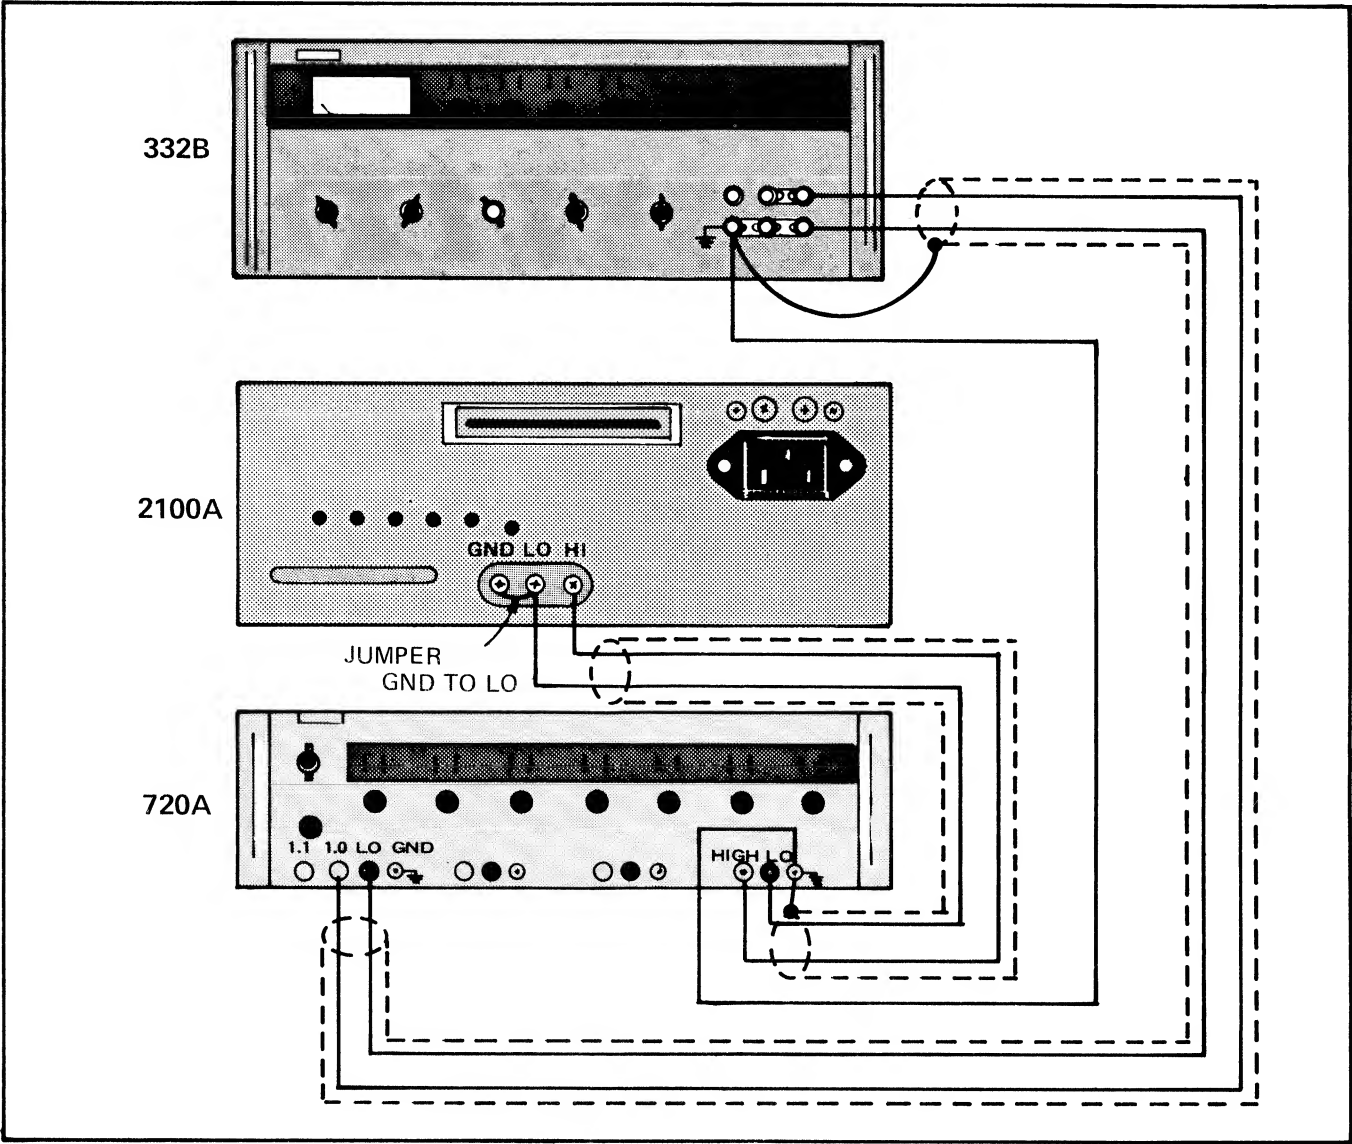

Figure 4-3. CALIBRATION EQUIPMENT CONNECTION
- a. Connect the test equipment as shown in Figure 4-3.
4-28. Refer to Figure 4-3 for the correct calibration equipment connections for this procedure. Table 4-3 provides the value of the inputs required for each thermocouple type.
4-30. Refer to Figure 4-3 for the correct calibration equipment connections for this procedure. Table 4-4 provides the value of the inputs required for each thermocouple type.
4-32. The following procedure must be done with the linearizer jumper installed. A step-by-step installation procedure for the jumper is provided. Table 4-5 lists the inputs required for each thermocouple type and voltage range. Refer to Figure 4-3 for the correct calibration equipment connections for this procedure.